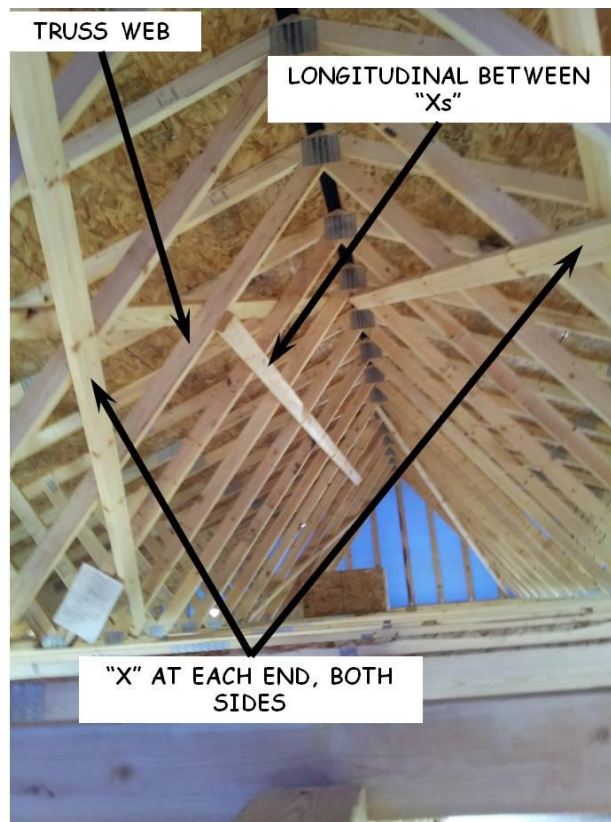

Figure 7-7. Truss Bracing.
1. After roof sheathing has been installed, permanently install X-bracing (diagonal). This bracing prevents lateral movement of the truss system. The bracing is nailed to the truss webs as shown in Figure 7-7.
5. Connect the X-braces by nailing one long 2x4, horizontally, to the truss webs, about halfway down from the peak. Each end of the longitudinal bracing must be nailed to at least two truss webs to which an X brace is nailed (see Figure 7-7). If more than one longitudinal 2x4 is required to span the distance, overlap at least two trusses where they meet.